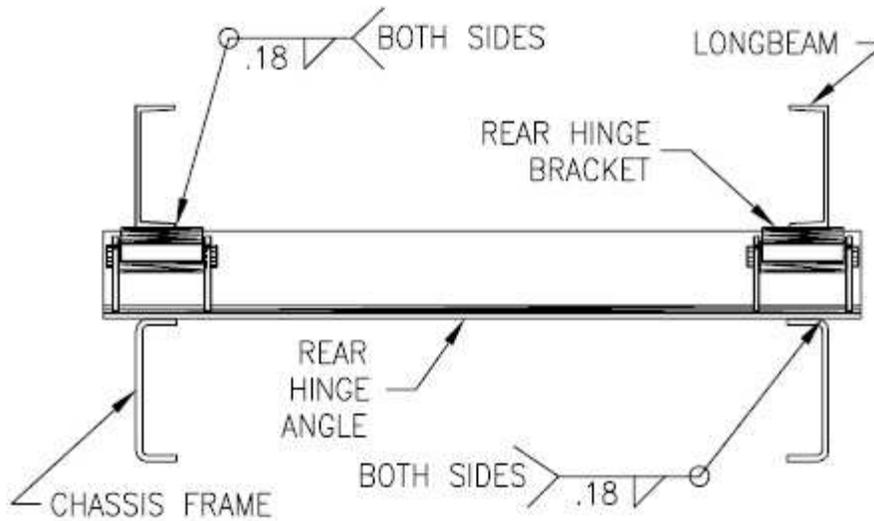

FIGURE 4
- Fasten the very rear end of the sub-frame to the truck by welding the rear hinge angle to the chassis frame as shown in Figure 4.
8. Position the rear hinge brackets against the bottom side of the long beams. Once in position, weld the rear hinge brackets to the body long beams as shown in Figure 4.